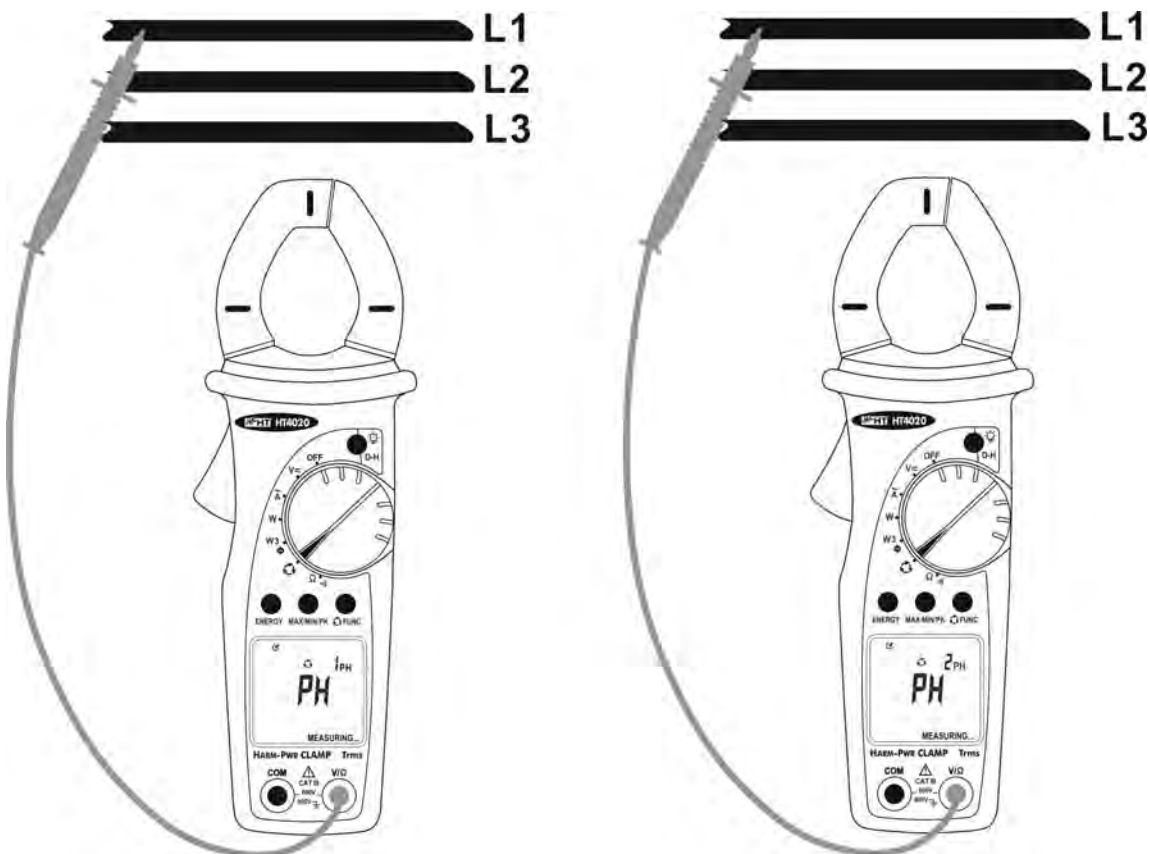

Fig. 14: Use of instrument for phase coincidence indication with 1 wire
3. Connect the red terminal to the L1 phase conductor of the first 3-phase system (see Fig. 14 – left part). If necessary use the rubber cup to insert red test lead
5. After about one second “**MEASURING**” appears on the display indicating that the instrument is ready to execute the first measurement (see Fig. 14 – left part)
8. Connect the test lead to the L1 phase of the second 3-phase system (see Fig. 14 – right part)